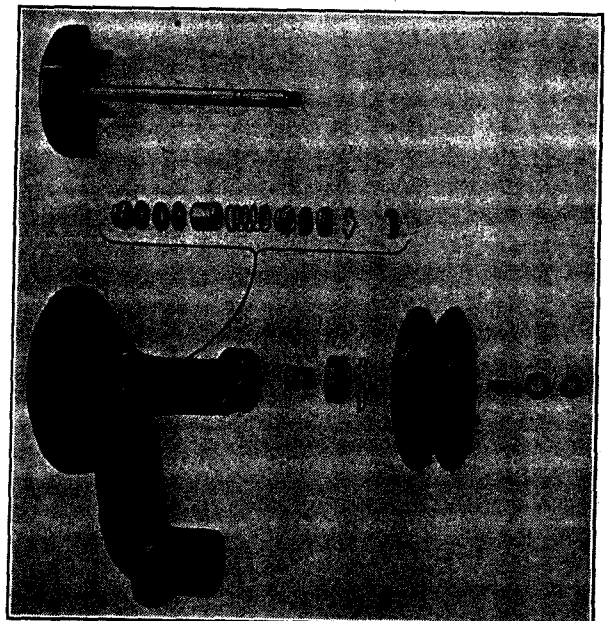

Fig. 7. Exploded view of V-8 water pump
The V-8 water pump is of the centrifugal type mounted on the front end of the right cylinder block and driven by the fan belt. It has automatically adjusted water pump packings of the chevron type. See Fig. 7. A spring keeps these packings compressed at all times. The fan belt is adjusted by raising or lowering the fan assembly.
1. Remove belt pulley (nut, lock washer and Woodruff key). See Fig. 7.